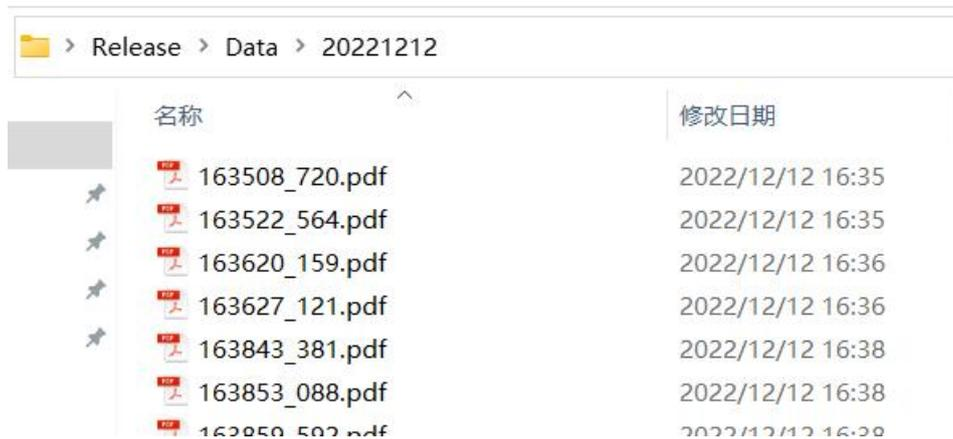

Figure 79
7) The files under the date folder are the details of the captured banknotes, as shown in Figure 79 and Figure 80 below.